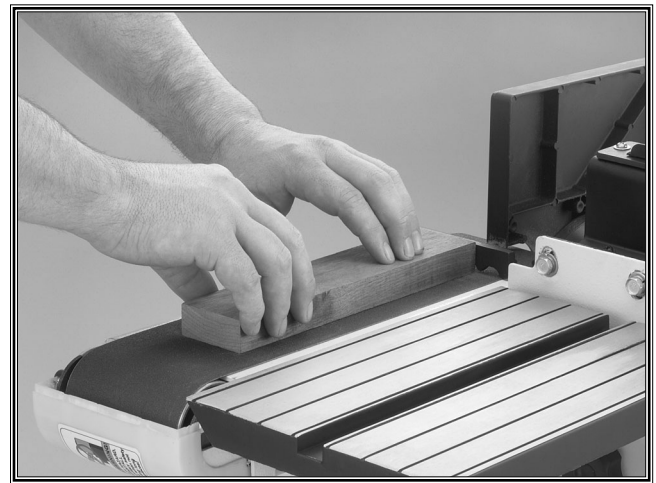

Figure 21. Flat sanding operation.
7. Hold the workpiece firmly in both hands as shown in **Figure 21**.